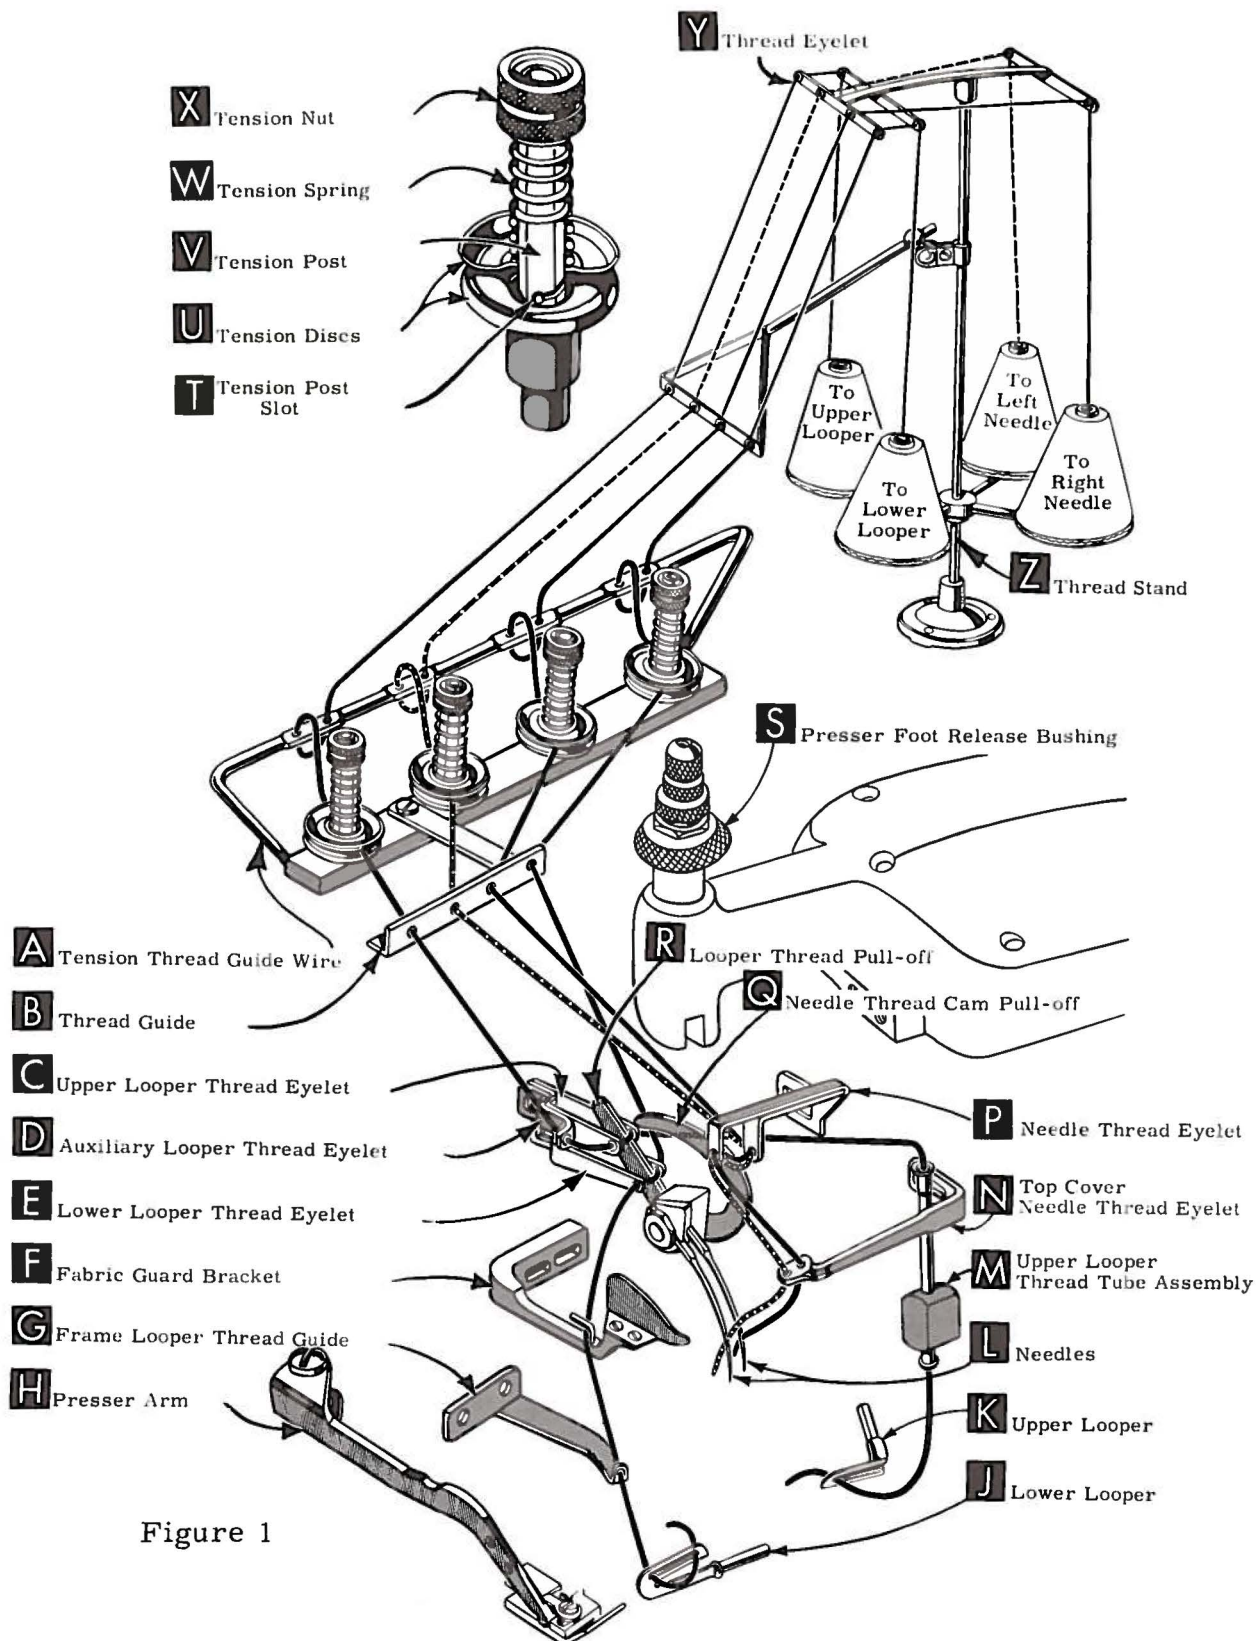

Figure 1
Release pressure on presser foot by turning presser foot release bushing (S, Fig. 1) and swing presser arm (H) out of position. Turn handwheel in operating direction until needles are at their lowest point of travel. Using hexagonal socket wrench No. 21388 AU, furnished with machine, loosen needle clamp nut about 1/4 turn. Again turn handwheel until needles are at their high position; withdraw needles.
After threads come from cones on thread stand (Z, Fig. 1), they are brought up through back eyelets, then down through front eyelets (Y) and through the adjustable thread guide. Next, they are threaded through each pair of holes in tension thread guide wire (A), down through right hand hole and up through left hand hole. Then thread continues between tension discs (U), through slot (T), and on through thread guide (B).
Only parts involved in threading are shown in threading diagram (Fig. 1). Parts are placed in their relative positions for clarity.
Double end of thread and lead it through both eyes of lower looper thread eyelet (E, Fig. 1) from right to left. Note: thread must pass in front of looper thread pull-off (R). Lead thread behind fabric guard (F) and through frame looper thread guide (G). Turn handwheel in operating direction until heel of lower looper (J) is all the way to the left; then thread through both eyes from left to right. Left eye of lower looper can be threaded easily if tweezers are in left hand.
Turn handwheel in operating direction until needles (L, Fig. 1) are at their highest position. Insert both needle threads from right to left, through both eyes of needle thread eyelet (P), under neck of top cover casting; then down through hole in top cover needle thread eyelet (N). Thread needles from front.
The amount of tension on needle and looper threads is regulated by four knurled tension nuts (X, Fig. 1). Tension on threads should be only enough to secure proper stitch formation.
Be sure machine is threaded according to threading diagram (Fig. 1, Page 5). With thread tensions light, set looper thread eyelets (C and E) about horizontal and in the middle of their front to back locations. Operate machine slowly, without presser foot in place, to make sure that chain forms and moves off the tongue freely. Swing presser foot into position, insert material, and sew slowly.
While sewing on material, check needle thread control as follows: Usually all needle thread is drawn on needle down stroke. At top of needle stroke, thread should be just tight enough to feed chain off stitch tongue. Stitch tends to pull down slightly if excessive thread is pulled on the up stroke. With needle at bottom of stroke, position needle thread eyelet (P, Fig. 1) so that needle cam pull-off (Q) just contacts needle thread.
With material under presser foot, set lower looper thread eyelet (E, Fig. 1) back far enough so thread is a little slack when looper thread pull-off (R) reaches its most rearward position. Looper thread pull-off (R) is set about 1/8 inch distance behind needle thread cam pull-off (Q). Frame looper thread guide (G) should be set with its eyelet approximately 1/8 inch to right of lower looper (J) heel eyelet at the time lower looper is at extreme left end of its travel.
Before proceeding to adjust upper looper thread eyelet (C, Fig. 1), balance all four tensions to give a normal appearing stitch. Moderate change in these tensions will not markedly effect the purl.
To move the purl more under the edge, both looper thread eyelets (C and E, Fig. 1) should be raised keeping the same amount of pull-off. Usually it is better to have slightly more pull-off on upper thread than on lower thread.